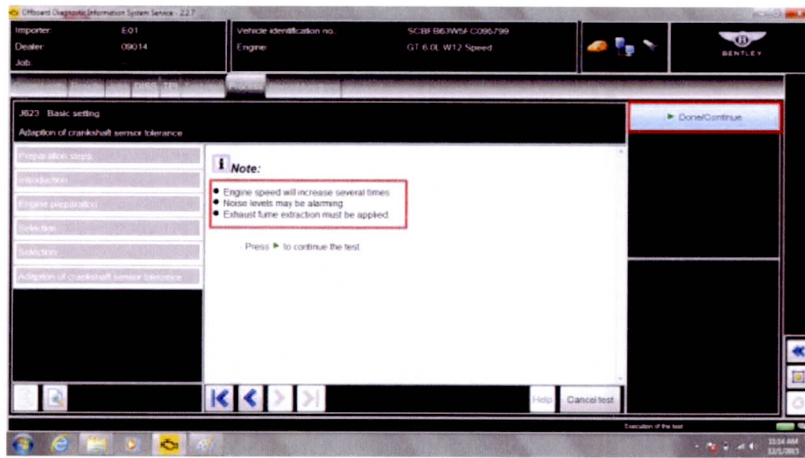

Figure 18
7. Follow and observe screen prompts and select *Continue* (see Figure 18)